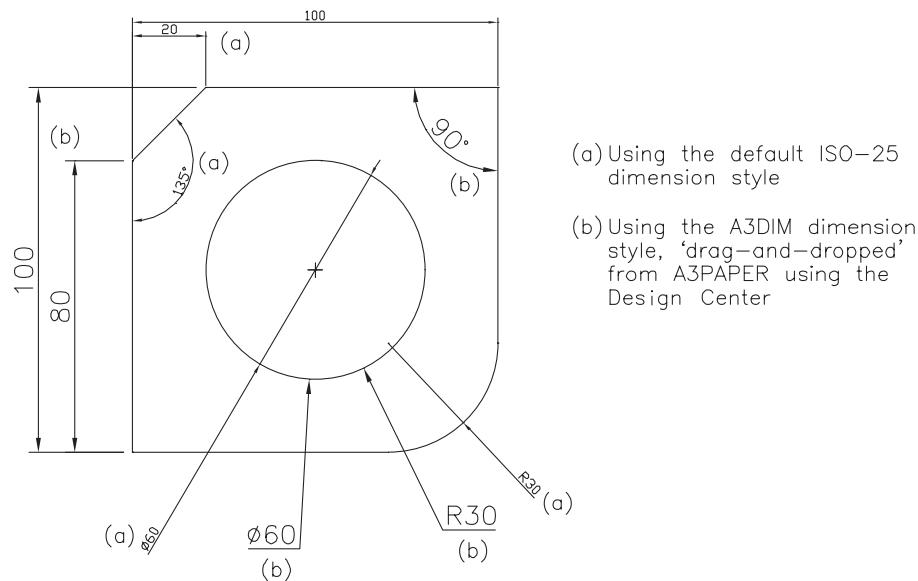

Figure 31.7 Adding a dimension style to a drawing using the Design Center.
- 4 Use this dimension style and add the following dimensions, denoted in Figure 31.7(a):
- 8 Now add similar dimensions as step 4, denoted in Figure 31.7(b).